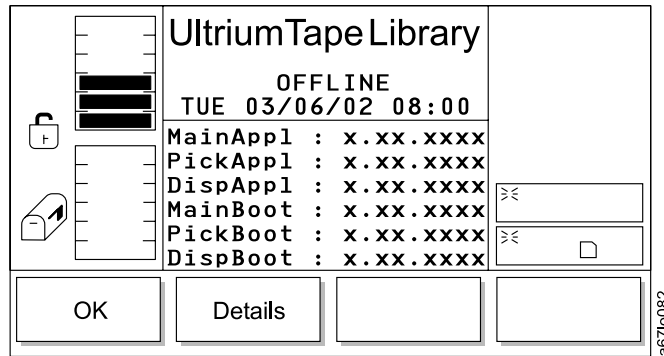

Figure 198. Detail Dialog (initial screen)
- If **Details** is selected, the Detail Dialog (initial screen) displays (see Figure 198 on page 152).
When **Details** is selected, the Details Dialog displays (see Figure 198). Use this option to view the library's current application and boot code for the picker, drive sleds, main board, and display. All code levels must be the same. However, if the boot code is at 02.01.0001 or above it does not have to have to match the other code levels.